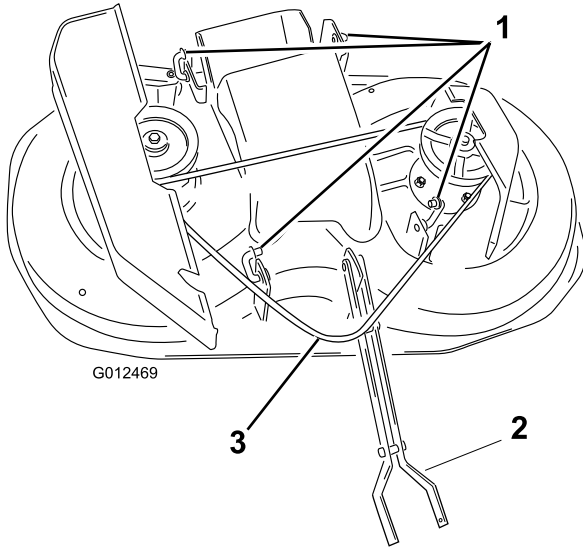

Figure 42
9. Remove the belt from the clutch pulley (Figure 42).
11. Remove the pins from the 4 rear links and remove the links from the tractor (Figure 42).
- Note:** You can leave the links attached to the mower as shown in (Figure 42).